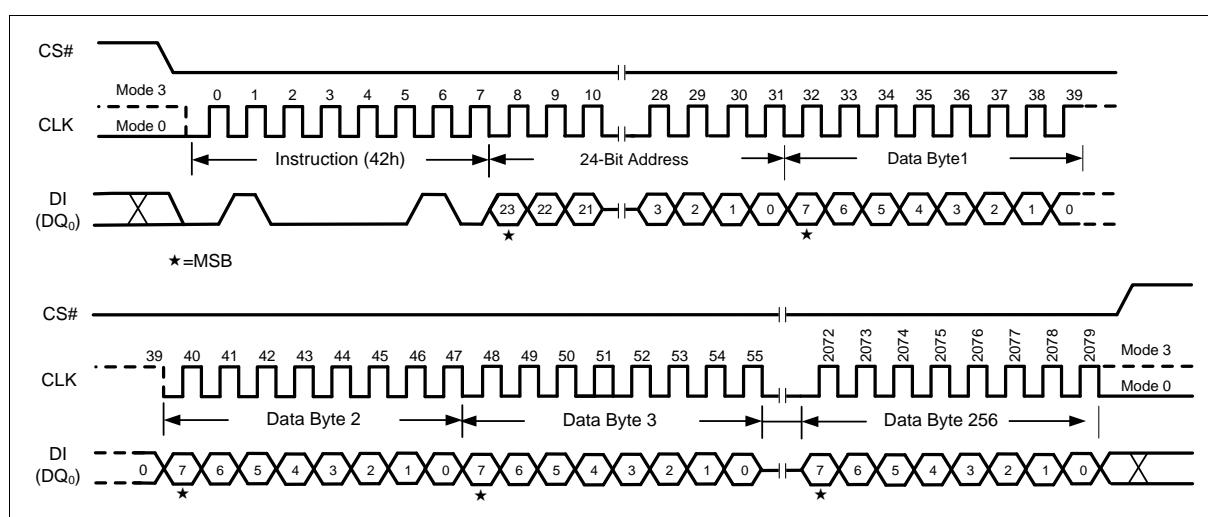

Figure 102 Program Security Sector Instruction (SPI Mode only)
The Program Security Sector instruction sequence is shown in Figure 102. The Security Sector Lock Bit (LB) in the Status Register-2 can be used to OTP protect the Security Sector. Once a lock bit is set to 1, the Security Sector will be permanently locked and Program Security Sector instruction will be ignored.